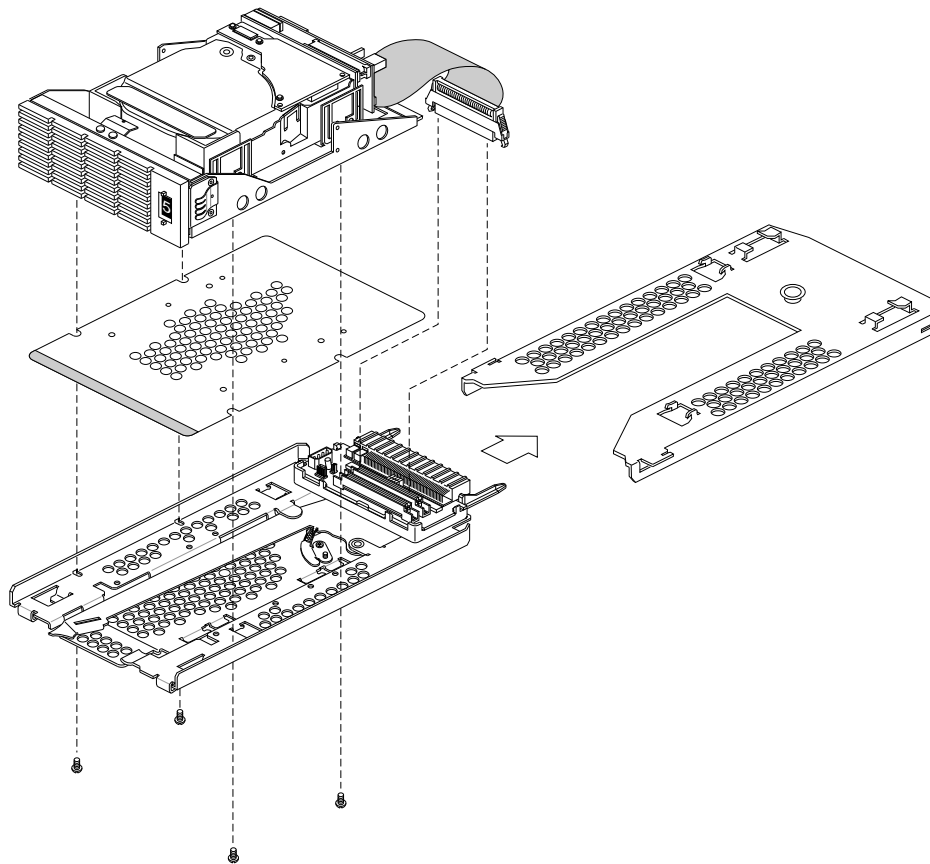

Figure 5-90 Installing a Drive on a Drive Sled
The CHALLENGE/Onyx deskside system does not use the previous front-loading drive mounts of earlier Silicon Graphic systems, such as the Single Tower or Crimson. The drives now sit on a drive sled that mounts on a drive shelf in the chassis (see Figure 5-90).
1. If the drive did not come already mounted to a sled, place it on top, as shown in Figure 5-90. Be sure the EMI shelf is affixed to the bottom of the drive and aligned, as shown in the drawing.